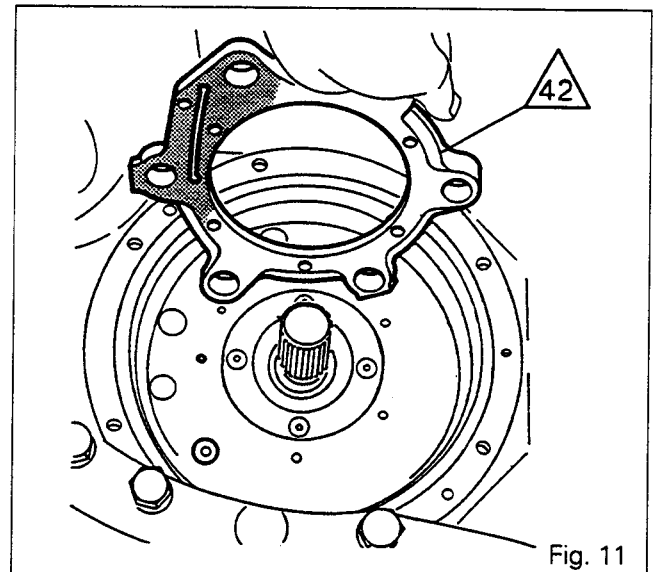

Fig. 11
38. Coat the mating face of housing (42) with a sealing compound around the lubricating pipe (Fig. 11) and then fit it.
39. Tighten the bolts (43) to a torque of 31 to 35 Nm after coating them with Loctite 241.